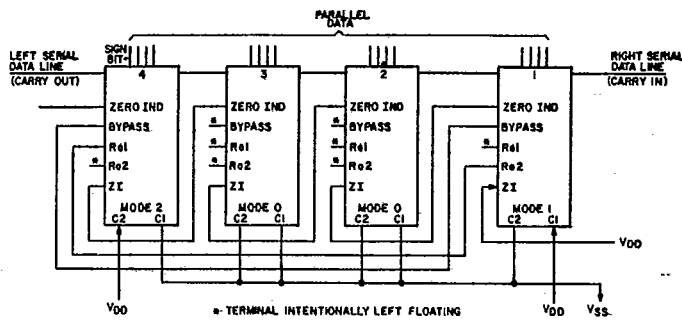

Fig. 11 - Connection for 16-bit arithmetic logic unit.
Data-flow interruptions are shown by shaded areas. With these three ALU's and the four available modes, 61 more system combinations can be formed. If 4 ALU's are used, 4⁴ combinations (256) are possible. Fig. 11 shows a diagram of 4 CD4057A's interconnected to form a 16-bit parallel processor.
The condition of "all zeros" is indicated by a "1" on the Zero Indicator terminal of the "Most Significant" CD4057A. As shown in Fig. 11, terminal ZI of the CD4057A containing the least significant set of bits is connected to V_{DD}. Zero indication is independent of modes.